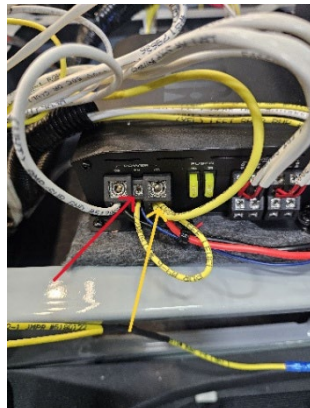

Figure 5
- With 2 mm Allen wrench, disconnect remote jumper from amplifier power port. Figure 5, yellow arrow.
- With 5/32 Allen Wrench, disconnect remote wire to subwoofer from the amplifier. Figure 5, red arrow.